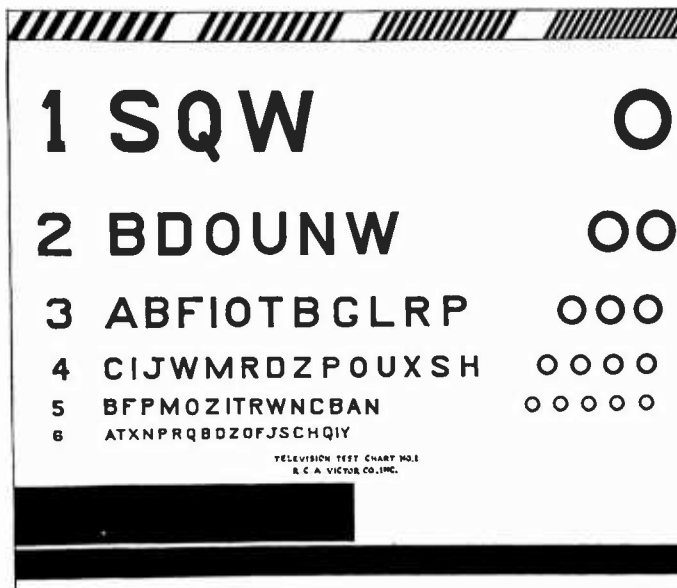
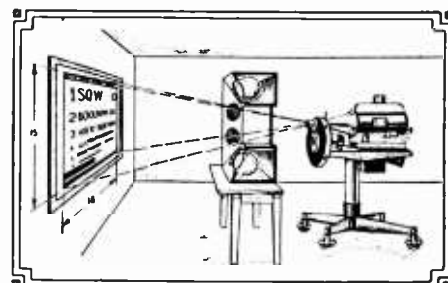
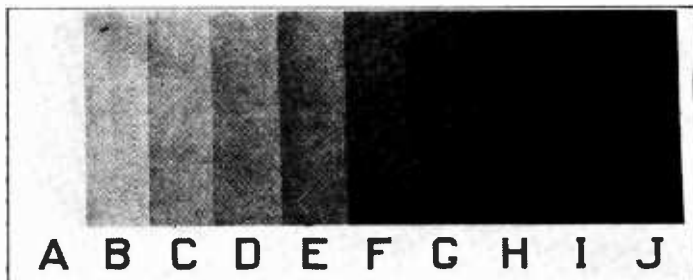

Fig. 1—Black and white chart, which has been found very useful in checking up fidelity in transmission.
Fig. 2—How charts are placed in front of television transmitter.
Fig. 3—This chart permits checking up the fidelity of "half-tone" transmission.
IN the present state of the television art, one of the major necessities is a point source of light of good modulation capability. Such a tube is required in all so-called "projection type" apparatus. Various methods have been employed in achieving the desired "point source". In some lamps the light available is limited by a shield placed within the tube, which is pierced by a minute hole of the desired dimensions—the size being governed by the characteristics of the optical system to be employed. Fig. 1 shows a lamp of this type in cross-section.
In Fig. 2 there appears a method evolved in the attempt to achieve a lamp of improved modulation characteristics. The "crater" takes the form of a hole
Cross-section of improved crater tube perfected by the author, in which the glow is brought out in front of the anode cylinder. Fig. 3.
To accomplish this result the writer set about the design of a tube of the general structure indicated in Fig. 3, and of the form shown complete in Fig. 4. Such a tube has a true "crater" source of
Across the top of the chart in Fig. 1 are groups of alternate white and black slanting bars; each group, left to right, is progressively narrower. In this way the horizontal definition of the system is measured. The heavy black bar,
It is possible, of course, to have good definition in a television system which is capable of reproducing only black and white; therefore, in order to measure the degree of merit of a television system, it is necessary to use, in conjunction with the definition chart of Fig. 1, the second chart shown in Fig. 3. It is
somewhat difficult to expose one sheet of photographic paper successively to secure ten shades which vary from white to black in equal steps. With proper photographic equipment this can be accomplished; but, to make the half-tone chart shown in Fig. 3, we cut the photographic paper, exposed during various experiments, into strips of the desired width, and then selected from about 100 strips of various shades, those which the eye indicated were needed to give the desired number of equal steps. For uniformity, this chart can also be constructed 15" x 18"; so that it can be conveniently mounted on a suitable support in front of the scanner.
What we need is a measure of perception afforded by various television systems. For such a measurement we turn to charts as those shown in Figs. 1 and 3. The purpose of this brief article is to describe the use of these previously mentioned charts as they are employed at the television transmitter, W3XAD, of the Research Division, R. C. A. Victor Company, at Camden, N. J.
The chart of Fig. 1 is enlarged, photographically or otherwise, to the size of 15" x 18" (5-to-6 ratio). The surface must be dull, so that bright reflections of the scanning beam are avoided. The chart may be attached to any convenient support at the proper height in front of the transmitting scanner, as shown in Fig. 2. The proper distance and the proper lens are selected, so that the scanned area just covers the chart and no more. Careful focusing at both the transmitting and receiving scanners (if
beam or pencil of electrons (10). They are further attracted and accelerated by a perforated metal plate (3). There are as many perforations in this plate as there are pins in the glass partition (4). In a 60-line picture, 3,600 perforations as well as 3,600 pins are necessary. Of course, instead of one pin several very thin pins may be made to face a perforation. The end of each pin faces a hole in the perforated metal plate as may be seen in Fig. 2, which shows portions of those elements greatly exaggerated for clarity.
A maximum glow is produced at the end of a pin when a maximum voltage flows through it. This glow-discharge spreads slightly around each pin, so that there are no blank spaces left between them. Fig. 3 is a partial end view of the tube, showing the location of the pins with respect to the anode screen (6).
Fig. 1 shows a conical-shaped glass bulb, divided into two chambers by a glass partition (4). Small metal pins (7) are imbedded within this glass partition; so that each pin has one end in